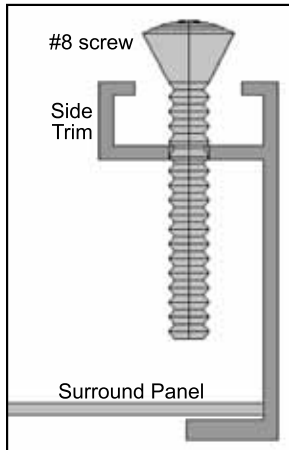

Figure 31: Screw to hold the trim against the surround.
7. Place assembled trim over the surround assembly. On the side trims, there are holes 2" (50 mm) from either end. Use a Phillips screwdriver to place a #8 screw  $1\frac{1}{4}$ " long in each hole and tighten just enough to keep the trim against the surround. (refer to Figure 31).